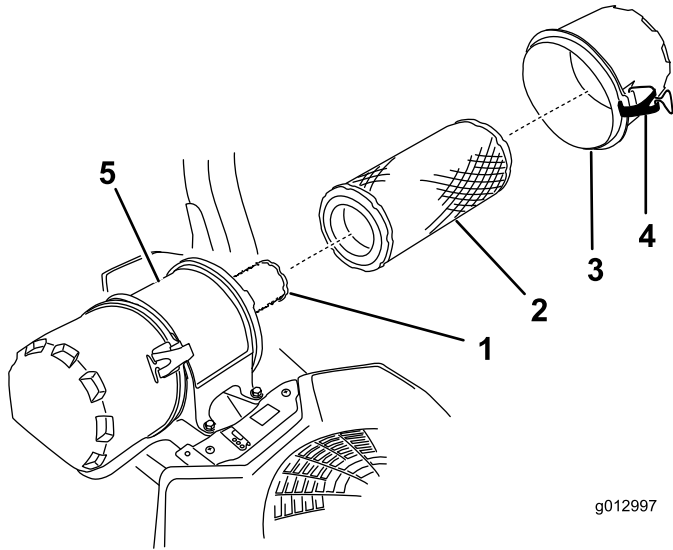

Figure 43
6. Release the latches on the air cleaner and pull the air-cleaner cover off the air-cleaner body (Figure 43).
8. Gently slide the primary filter out of the air-cleaner body (Figure 43).
- If the inner filter is being replaced, carefully slide it into the filter body (Figure 43).
- Carefully slide the primary filter over the inner filter (Figure 43).
- Install the air-cleaner cover and secure the latches (Figure 43).